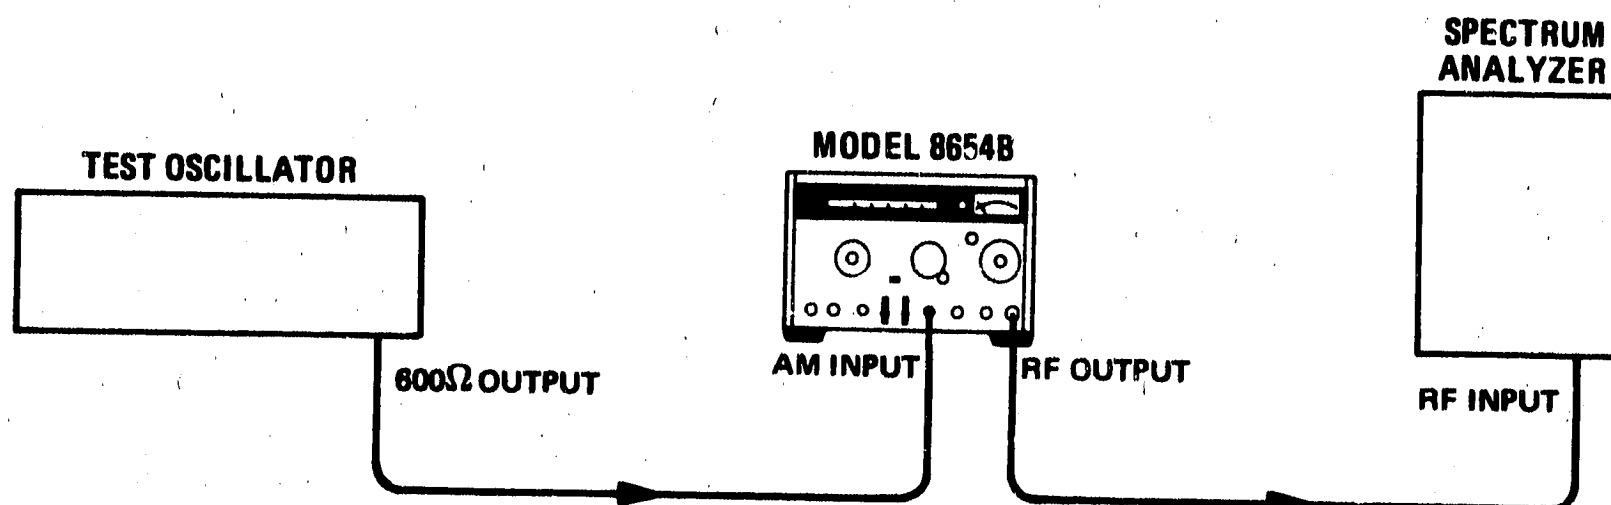

Figure 4-5. AM Bandwidth Test Setup
1. Connect equipment as shown in Figure 4-5 after setting Signal Generator controls as follows: